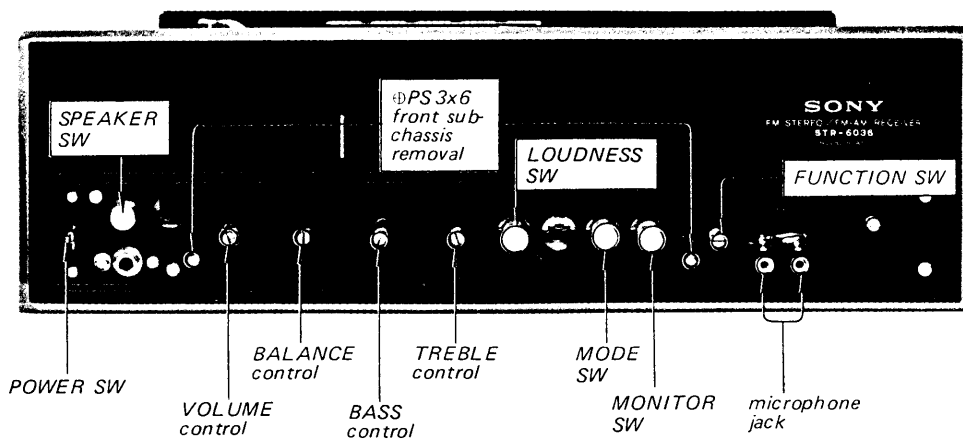

Fig. 2-16. Front subchassis removal (2)
3. Remove the two screws securing the front subchassis to the control bracket and two microphone jacks as shown in Fig. 2-16. This frees control board.